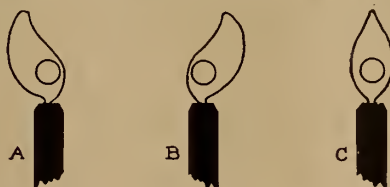

Figure 1
Before considering the "Parallax Panoramagram," let us consider the method used in making still pictures. Figure 1 illustrates the arrangement for taking stationary photographs. A
CONSIDERABLE light loss is occasioned in a high-intensity lamp for the following reasons: (1) negative carbon out of line with respect to the center of the condensers, and (2) condenser assembly lenses out of line with respect to each other. The accompanying illustrations indicate these deficiencies. In Figure 1, A shows the negative carbon too far to the left; B shows the negative carbon too far to the right; while C shows a perfect arc, the result of proper alignment. A and B sections of Figure 1 show the tail flame out of center, which condition means that the light is out of center with respect to the center of the condensers.